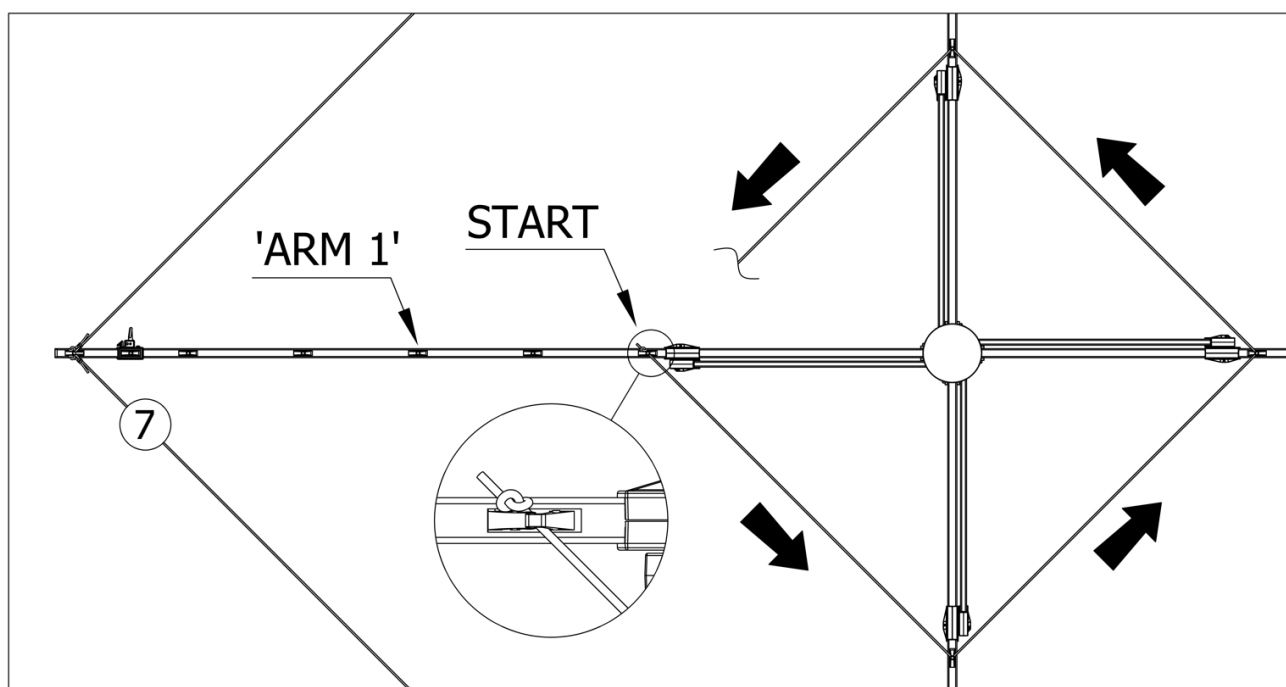

Fig 7. Cording innermost line. (Viewed from above)
1. Start cording the innermost clip on 'Arm 1', putting the cord through and tying a knot. (Fig. 7)
2. Working in an anti-clockwise direction. Pull the cord into each clip until you get back to 'Arm 1'. (Fig. 7)